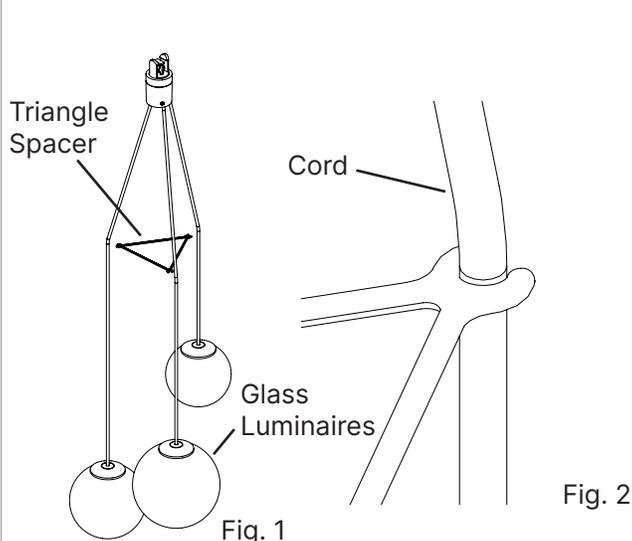

Fig. 2
1. Place the **Triangle Spacer** in between the **Cords** of the fixture (Fig. 1). Snap the pendent Cables into the Spacer at three locations (Fig. 2). **Note:** Make sure **Glass Luminaires** are screwed on tightly.